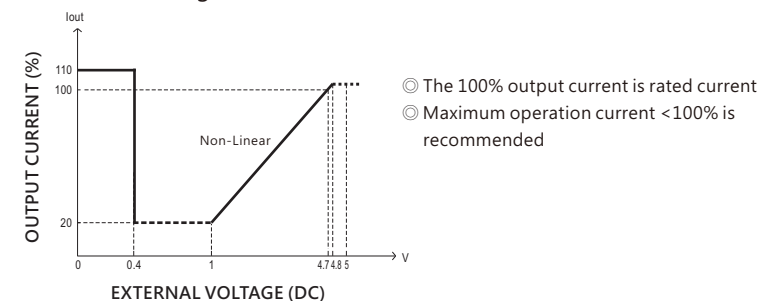

Figure 5-5
- 2.Relationship between output current and external DC source is shown in Figure 5-5